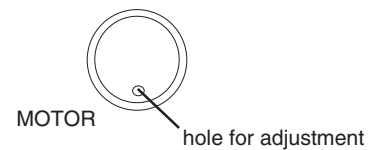

Fig.3
3. Adjust a hole on the motor bottom so that a frequency counter reading of $3,000 \pm 5\text{Hz}$ is obtained. See Fig.3.